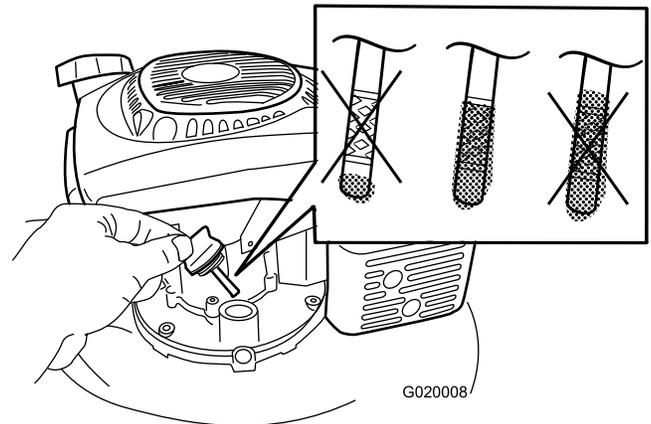

Figure 20
- Slowly** pour oil into the oil-fill tube until the oil level reaches the Full line on the dipstick (Figure 20). **Do not overfill.** (Max. fill: 0.65 L (22 oz), type: 10W-30 or SAE 30 detergent oil with an API service classification of SJ or higher.)